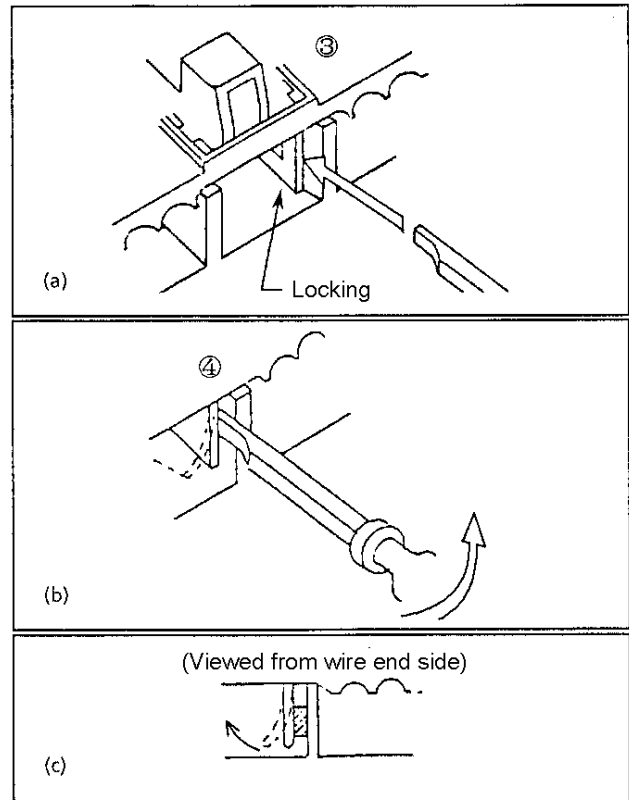

Fig. 4 (a), (b) and (c)
3. Insert tip end of the tool into the gap of locking device with its flat sides facing aside as shown in Fig.4.